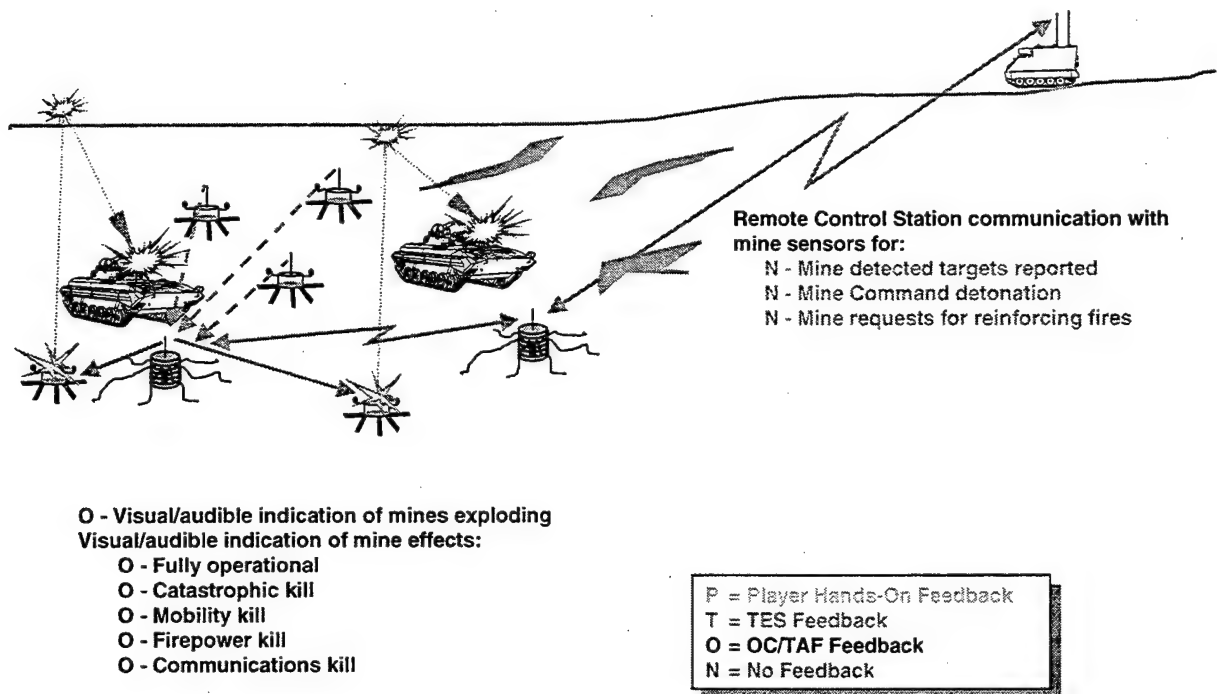

Figure 5. Data elements required to support player intrinsic feedback.
Figures 5 and 6 provide an example TAAF Aids analysis for intrinsic feedback requirements. In the TAAF Aids analysis, we identified the intrinsic feedback the soldier or crew will receive during actual employment of the combat system. We contrasted our analysis results with the capabilities of the TES, IS, OCs and TAF analysts to provide the feedback and identified the shortfalls. Recall that intrinsic feedback is "down-range" feedback provided to exercise players during the exercise as they interact with their tactical systems and other players. Intrinsic feedback consists of those real or simulated entities or activities that stimulate the senses of the players and cause them to react to a condition or combination of conditions. Also recall that when the TES system fails to provide "down-range" feedback for simulated conditions based solely on BLUFOR and OPFOR actions, OCs and TAF analysts must perform control procedures to stimulate/cue exercise players.
The legend in Figure 5 breaks down the intrinsic feedback requirements by source:
In Figure 5, two BMPs are encroaching upon an area defended by a simulated RAPTOR minefield. To simulate Wide Area Mine (WAM) engagements, TAF analysts and OCs must perform extensive control actions. Below the BMPs is a listing of the "down range" feedback required by the BMP crews as they close on the minefield and WAM engagements disable their vehicle. OCs detonate pyrotechnics to simulate the visual and audible signatures of exploding WAM mines (O). During the Task Force XXI Army Warfighting
Figure 6 lists OC and TAF analyst control and feedback (CAF) functions required to generate intrinsic feedback for the O-coded items in Figure 5.